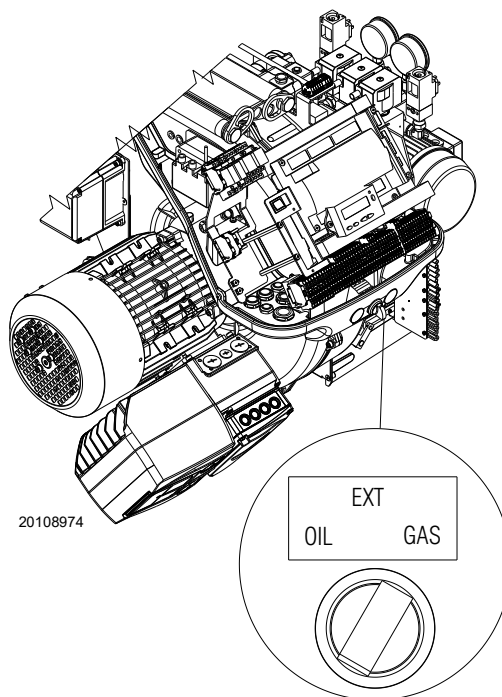

Fig. 39
- 1 with the “OIL-EXT-GAS” selector (Fig. 39);